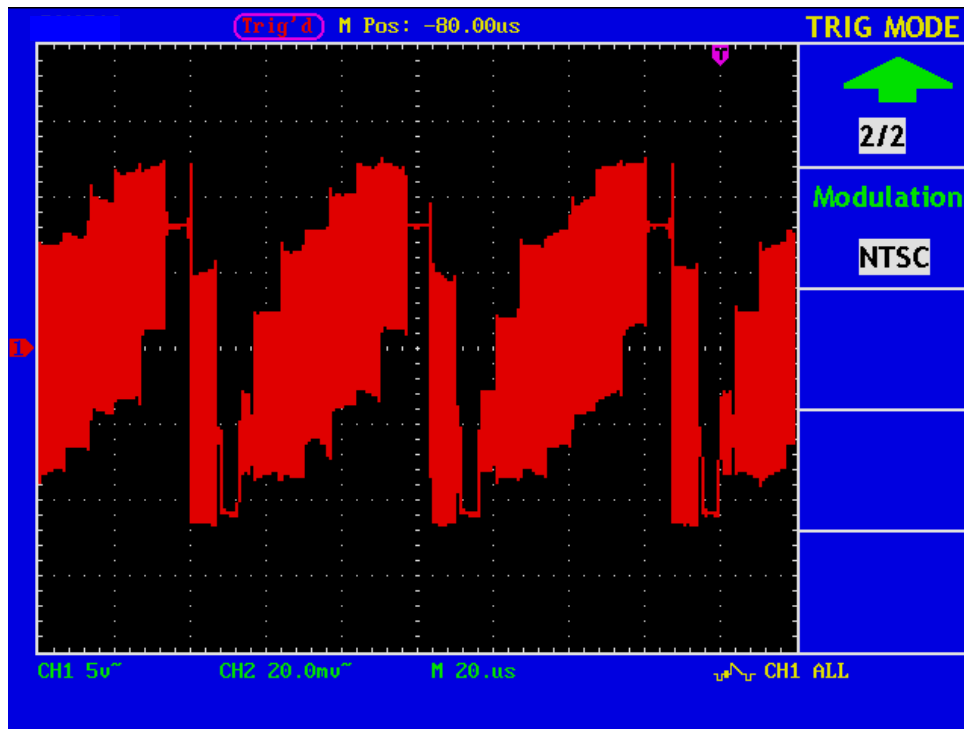

Fig. 38 Video line trigger Oscillogram(the second menu)
7. Press F2 to chose modulation as "NTSC" (refer to Fig. 38)